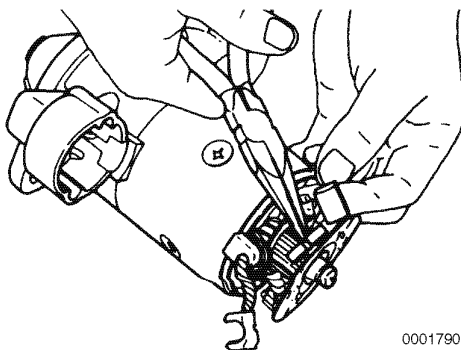

Figure 10-8
10. Pull up the brush springs using a brush spring puller (**Figure 10-8**). On the negative (-) side, bring the brush spring into contact with the side of the brush for lifting from the commutator surface. On the positive (+) side, remove the brush from the brush holder assembly.